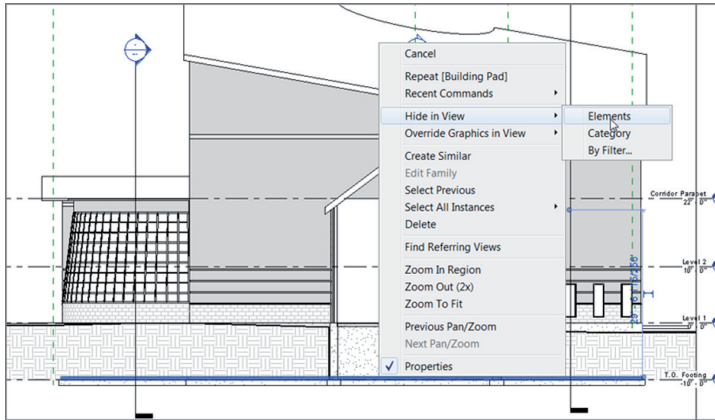

FIGURE BC3.23: Hiding the pad in the view
13. You can see the pad sitting on top of the footing extending past the wall, as shown in Figure BC3.23. Select it.
14. Right-click, and select Hide In View > Elements (see Figure BC3.23).